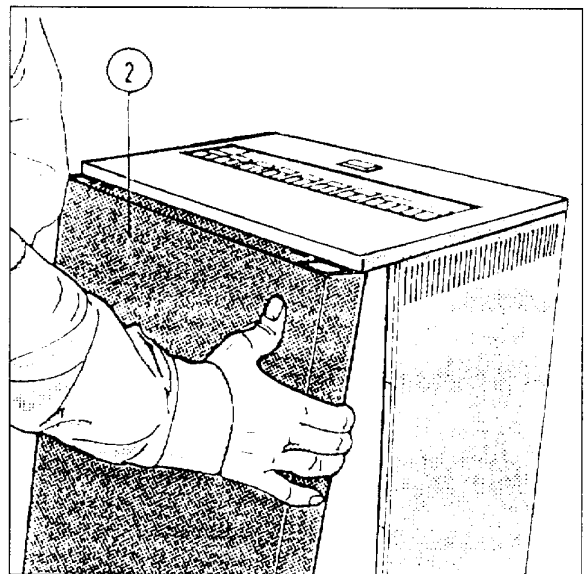

Fig. 7
- Remove the screws from the upper front plate (2/Fig.7) and remove the cover.